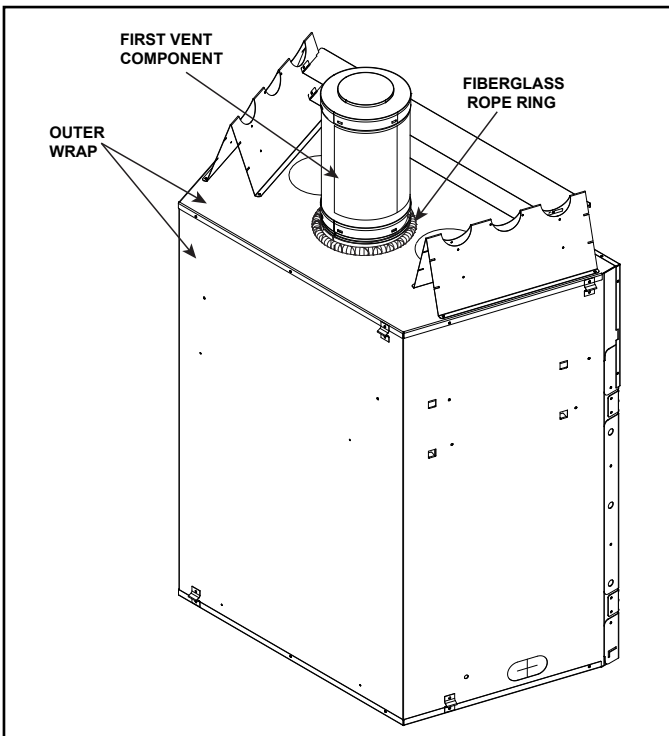

Figure 4.8 Fiberglass Rope Ring
2. Make sure that the fiberglass rope ring shipped in place seals between the first vent component and the outer appliance wrap. See Figure 4.8.